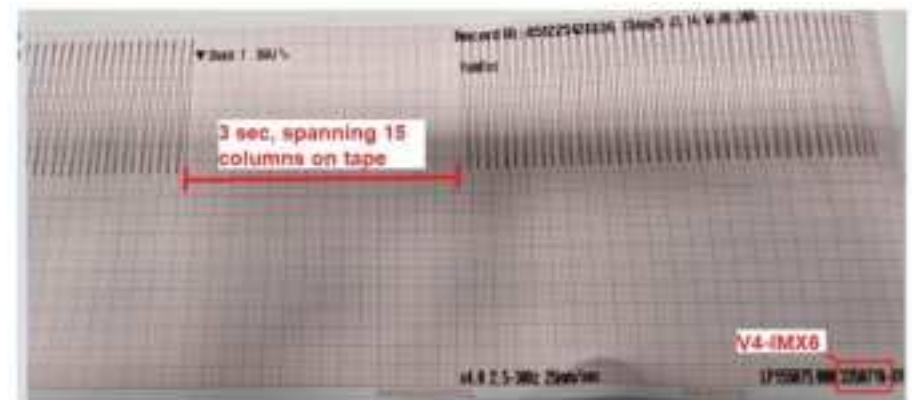

Figure 1.44b—QUIK-COMBO ECG Restore test V4-IMX6 printout
- except **V4-IMX6**. See Figure 1.44b for **V4-IMX6** models.)